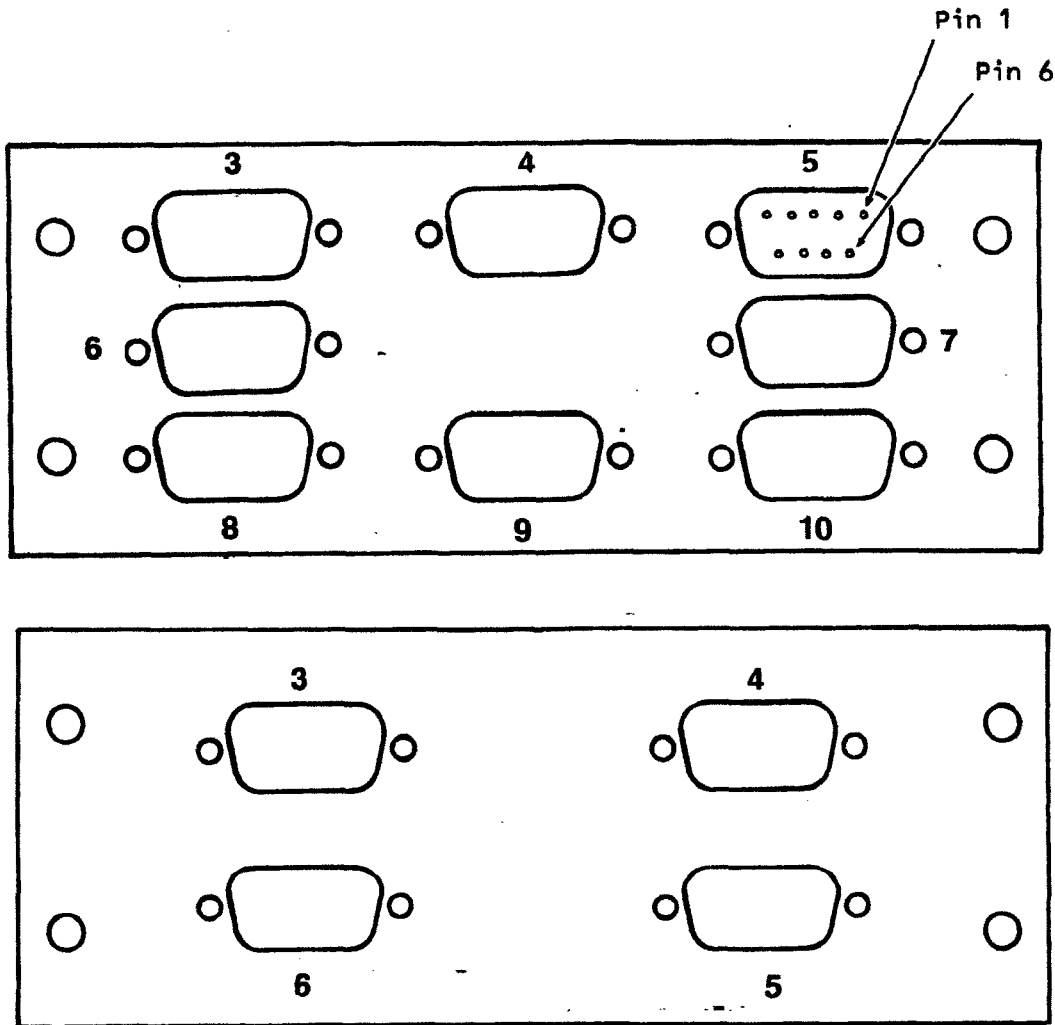

Figure 6. Rear Connector Panels (4 and 8 Channel).
1. The four channel option cable plugs into J2 of the AM-337. The red stripe lines up with pin 1. See Figure 6 for the four channel orientation of the Rear Panel Mounting Plate.
2. The eight channel option contains two flat ribbon cables. Channels 3-6 connect to J2 of the AM-337 and channels 7-10 connect to J3. For both cables, the red stripe lines up with pin 1. See Figure 6 for the eight channel orientation of the Rear Panel Mounting Plate.